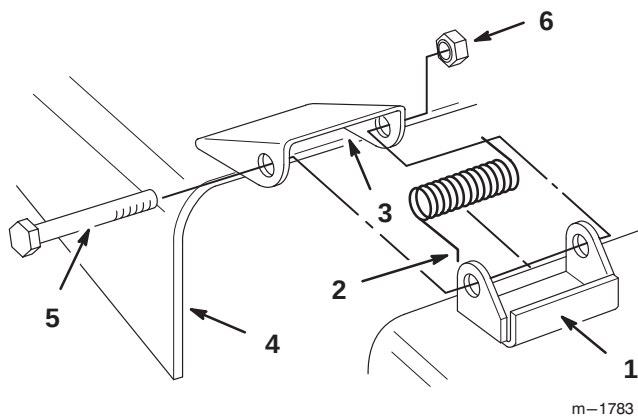

Figure 47
1. Remove the locknut, bolt, and spring holding the deflector to the mower brackets (Fig. 47). Remove the damaged or worn grass deflector.
2. Place the springs into the brackets on the mower with the hooked ends over the raised back (Fig. 47).
3. Align the grass deflector with the holes in the brackets and the spring straight ends in the space under the hinge and above the deflector (Fig. 47).